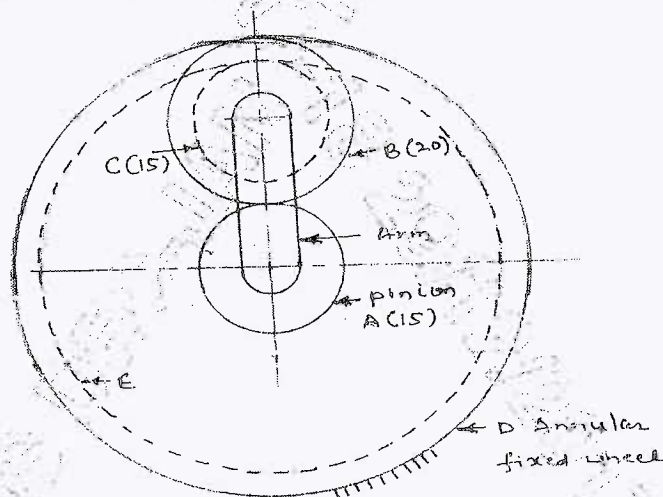

Fig Q7
- 7 Fig Q7 shows epicyclic gear train pinion A has 15 teeth, and is rigidly fixed to the motor shaft. The wheel B has 20 teeth and gears with A and also with the annular wheel D which is fixed. Pinion C is having 15 teeth and is integrated with B (B and C are compound wheel). Gear C meshes with the annular wheel E which is keyed to the machine shaft. The arm rotates about the same shaft on which A is fixed and carries the compound wheel B and C. If motor runs at 1000rpm find the speed of machine shaft and the torque exerted on the machine shaft if motor develops a torque of 100 Nm. (20 Marks)